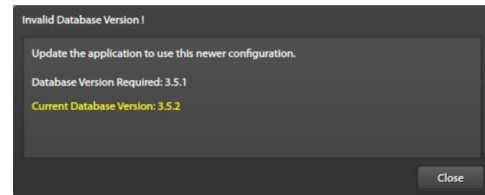

Figure 9. Invalid Database Version Update E3 Console
**NOTE:** If the version of E3 Console in use is older than the version of the E3 Console used to create the configuration, then upgrade the E3 Console application to enable loading the newer configuration (see Figure 9).